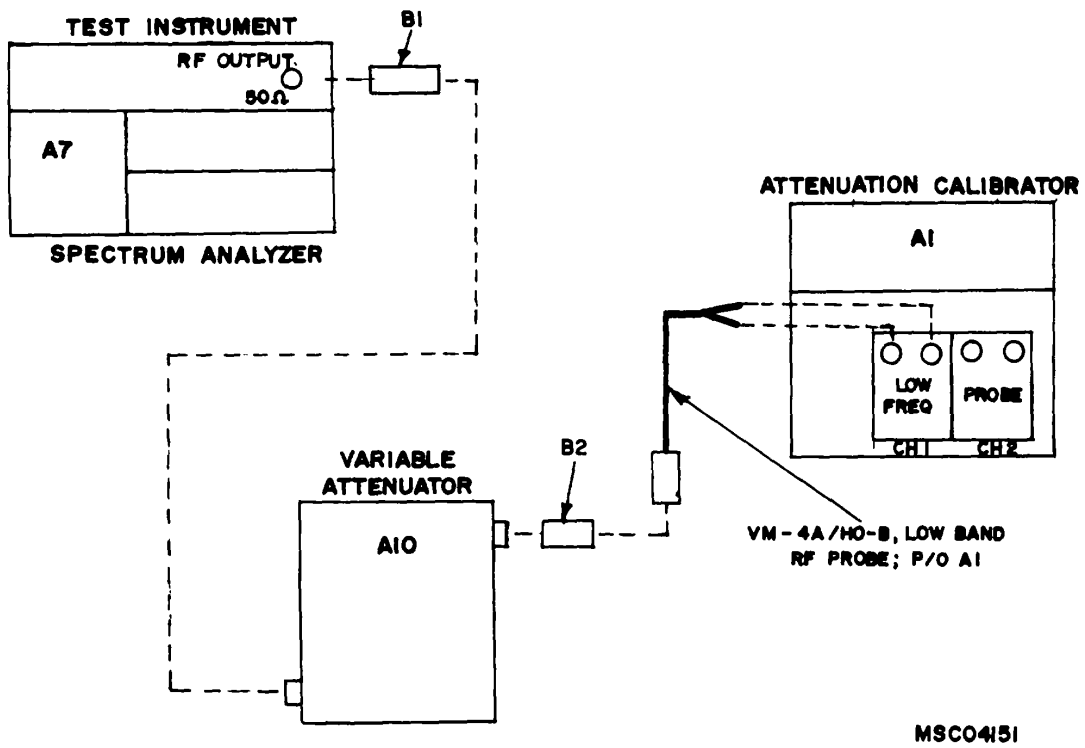

Figure 3. Amplitude range - equipment setup.
(1) Set controls of variable attenuator (A10) to 20 dB and connect equipment as shown in figure 3.